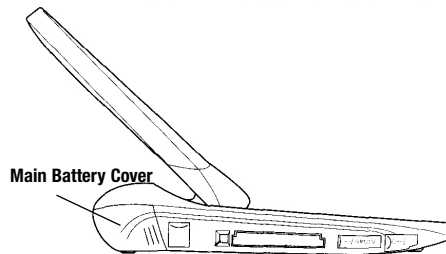

Figure 1: Main battery cover
1. Slide the battery so the outside latch is toward the rear of the programmer (Figure 1).